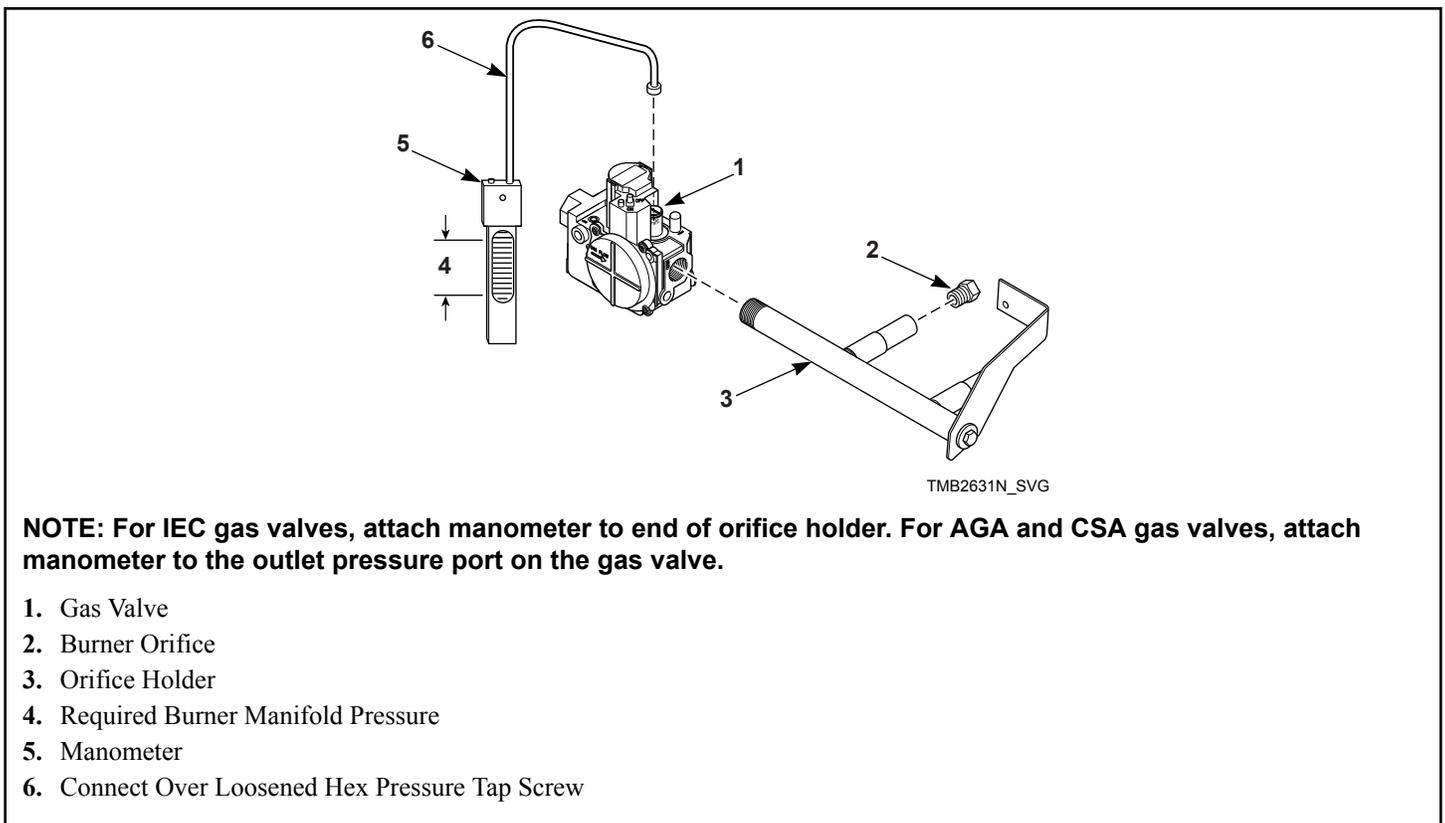

Figure 18
2. Remove orifice holder. Unscrew orifice holder nut near gas valve. Remove the burner orifice(s) from orifice holder. Refer to *Figure 18* .
1. Check gas burner orifice (manifold) pressure as follows. Refer to *Figure 18*.
4. Start tumble dryer and note pressure once flame is burning. Remove regulator cap and adjust regulator screw until the burner orifice pressure per applicable table is achieved. Replace regulator cap. Refer to *Figure 18*.